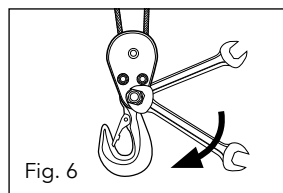

Fig. 6
4. Tighten the nuts in a clockwise direction while applying counter pressure to the screw heads (Fig. 6).